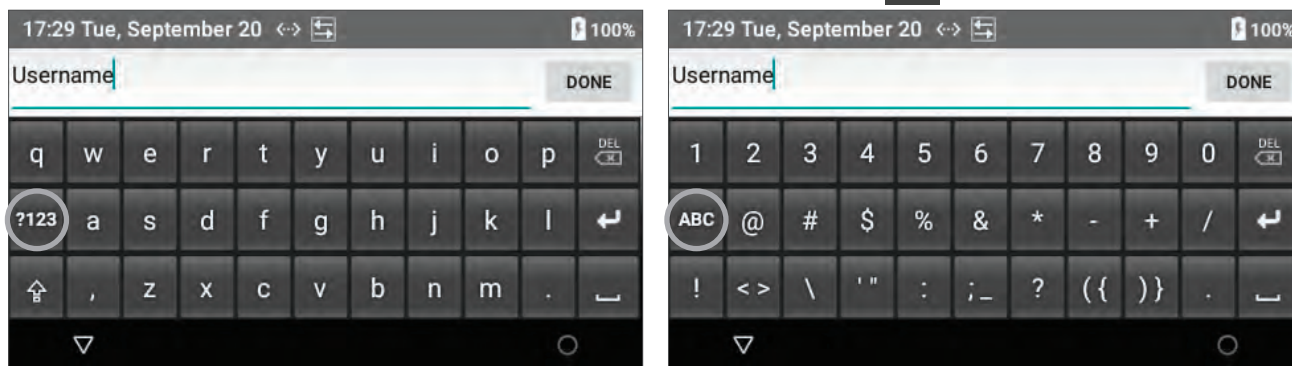

Figure 11: Virtual Keyboard with Numbers and Symbols
- To switch to the keyboard that contains numbers and symbols, select **?123** (Figure 11).